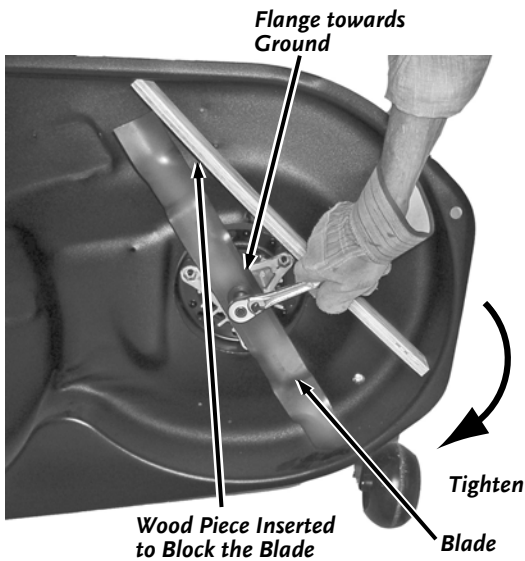

Figure 15
6. Mount the new Blade (with the center flange towards the ground), Blade Washer, Lock Washer, and Blade Bolt, in that order (Figure 15).